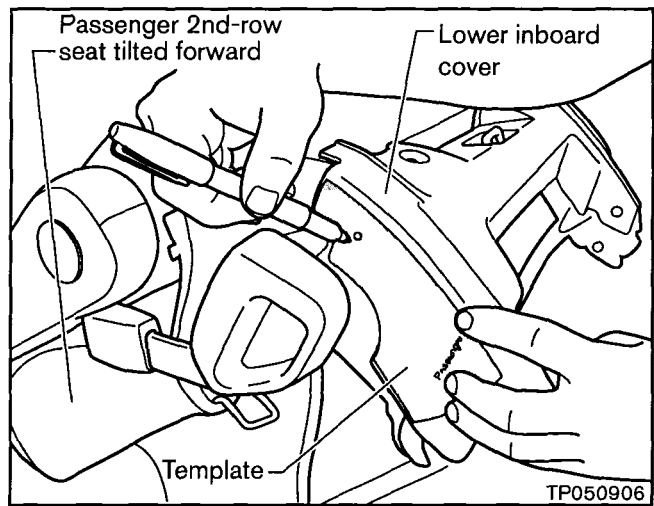

Figure 5
- a. Use the template from the kit to mark a hole on the lower inboard cover (see Figure 5).